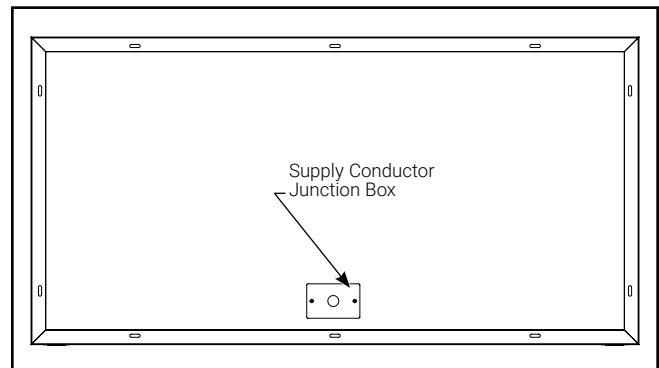

Figure 5.
**Note:** It is recommended to mount the box such that the supply conductor junction box is located at one end of the box. This will ensure there is enough free space inside the box for excess flexible metal conduit. (Figure 5.)